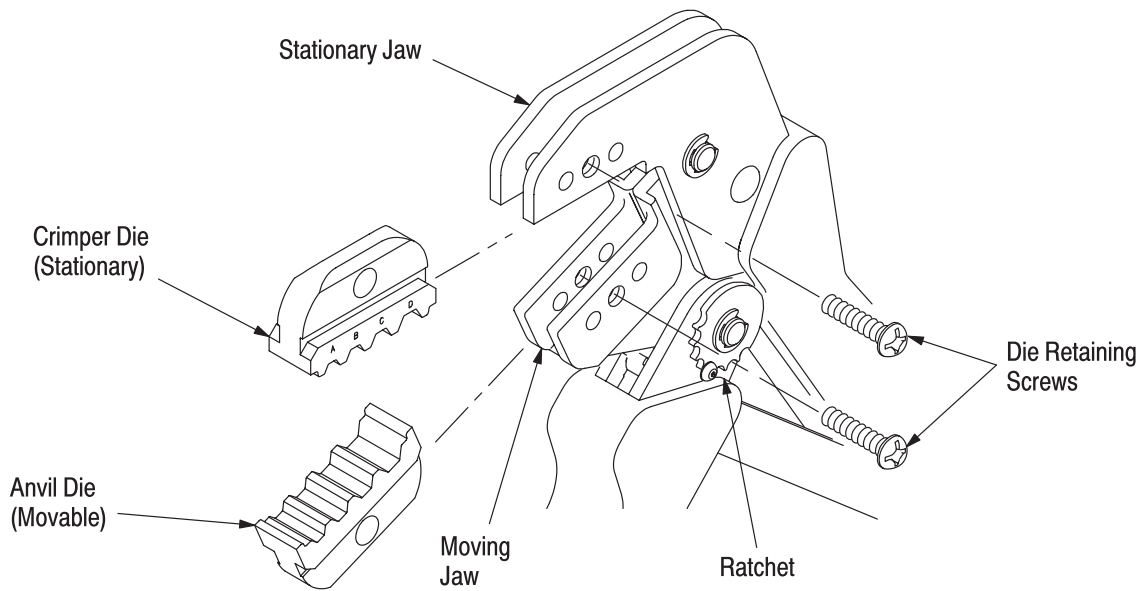

Figure 2
The die assembly features an anvil die and a crimper die. When closed, the dies produce four crimping chambers that crimp the ferrule of the connector onto the fiber-optic cable. Each die is held in the tool jaws with a single die-retaining screw. See Figure 2.
3. DIE INSTALLATION (Figure 2)